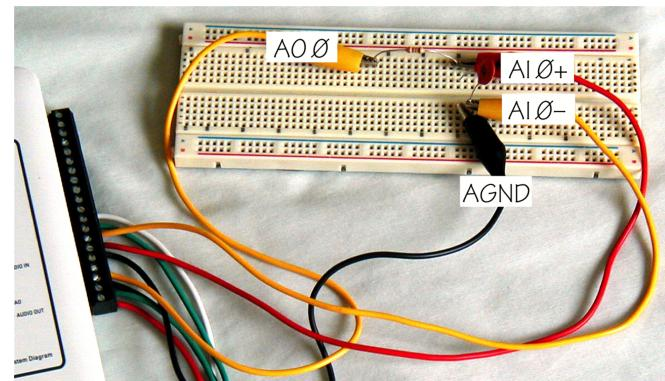

Figure 3: myDAQ Connections
myDAQ will provide the input voltage V_{in} to your circuit via a pair of terminals labeled $AO0$ and $AGND$. It will observe the output voltage V_{out} via terminals $AI0+$ and $AI0-$. Note these terminal labels are designed to confuse mortals with combinations of zeros and ohs and eyes and ones. Look carefully at what you are doing. Figure 3 shows the completed connections.
- Check your work against the picture in Figure 3.